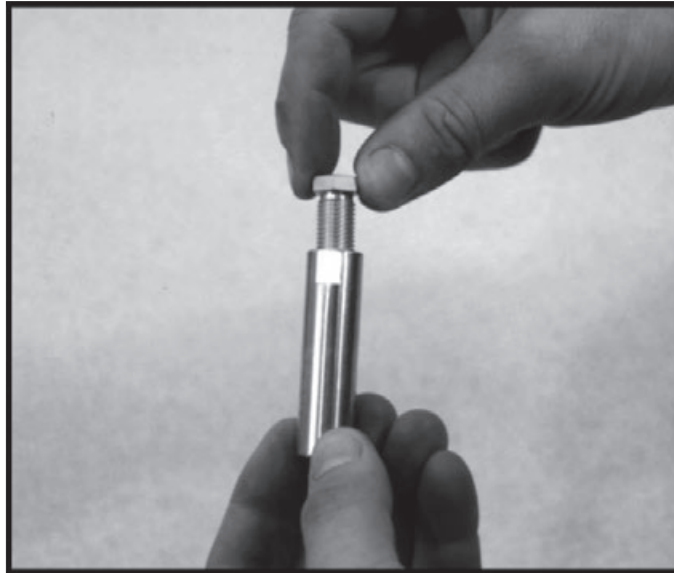

Figure 3-13.
5. Install the adjustment screw into the adjustable leg and tighten completely. (Figure 3-13)